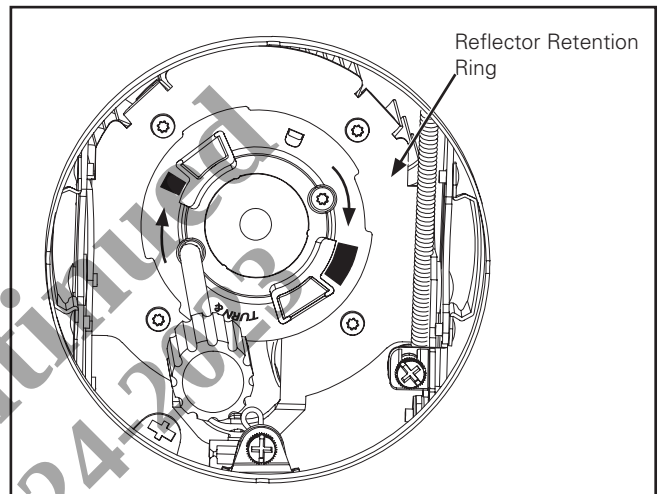

Figure 27.
2. Remove two M3 screws holding the white Reflector Retention Ring (Figure 27.). Use a Torx-head T-10 screwdriver.